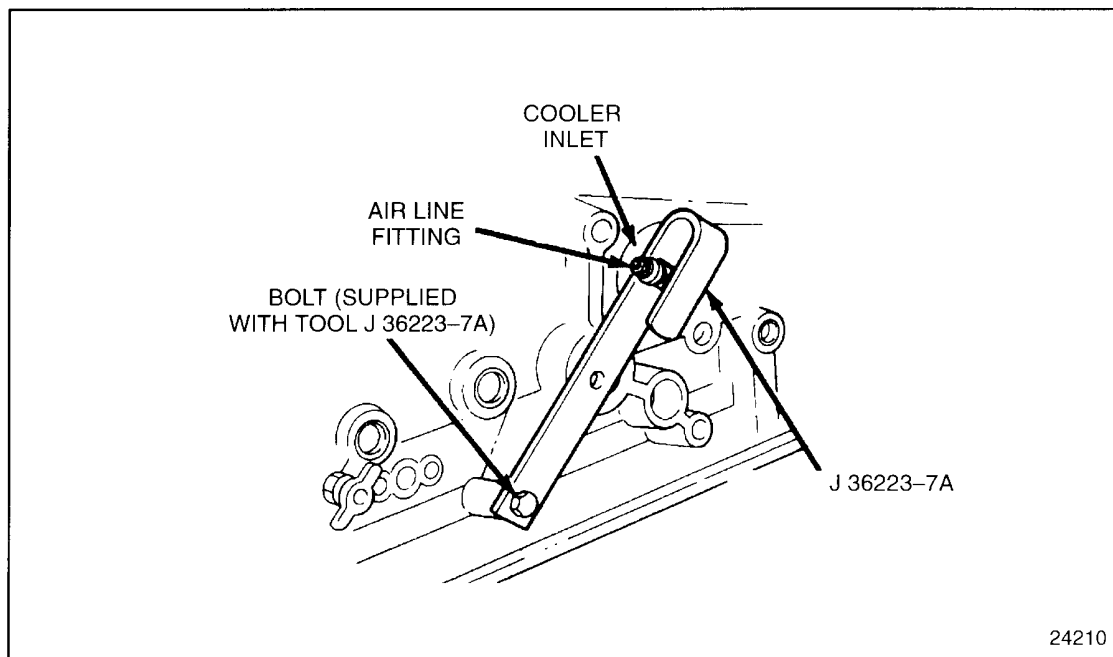

Figure 1-10 Water Inlet Cover Plate Installation
5. Install the water inlet cover plate, J 36223-7A part of J 36223-D. See Figure 1-10. Use the bolt supplied with the tool to secure it to the cylinder block.
6. Install the water inlet cover plate, J 36223-7A part of J 36223-D. See Figure 1-10. Use the bolt supplied with the tool to secure it to the cylinder block.